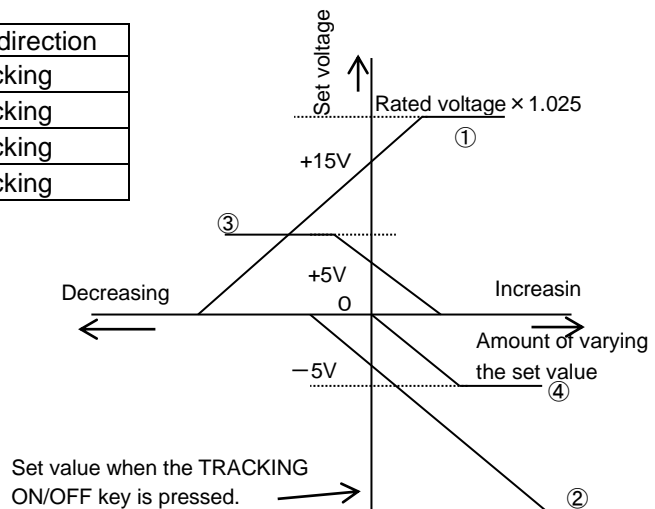

Fig.10 Absolute Value Tracking Operation
- ※ For details of the tracking function, see Figs.10 and 11.
- ※ See Figs.10 and 11 for the variation in the tracking mode.
※ Fig.10 shows an output example of the PW18-1.8AQ in the absolute tracking mode.
The figure on the right shows the percentage tracking mode operation in the same conditions as shown in Fig. 10.